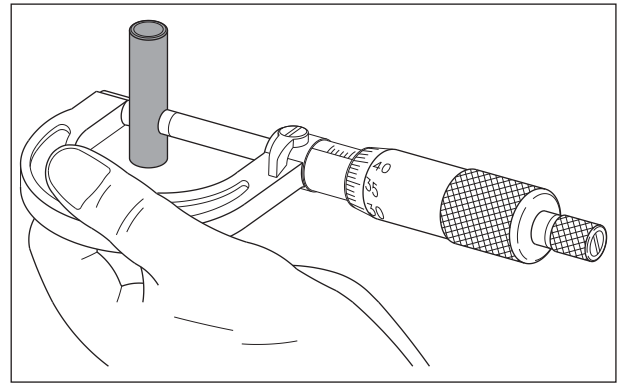

Fig. 3.92
- Check the piston pin OD using a micrometer. (Fig. 3.92) If the reading less than the service limit replace the pin piston. Other wise the pin may create unwanted noise.